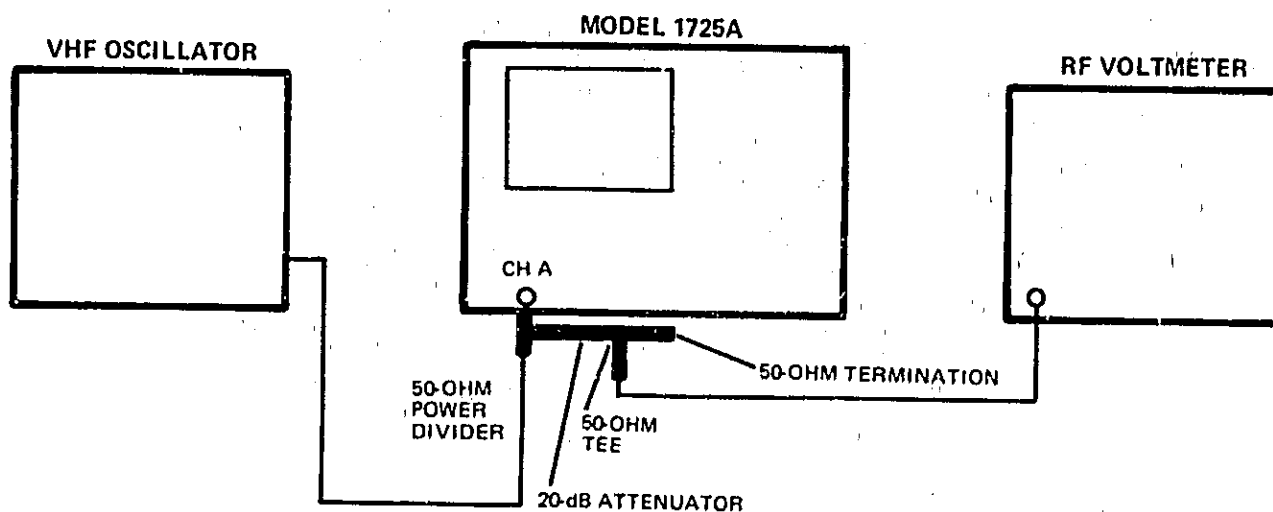

Figure 5-4. Bandwidth Test Setup
a. Connect equipment as shown in figure 5-4.